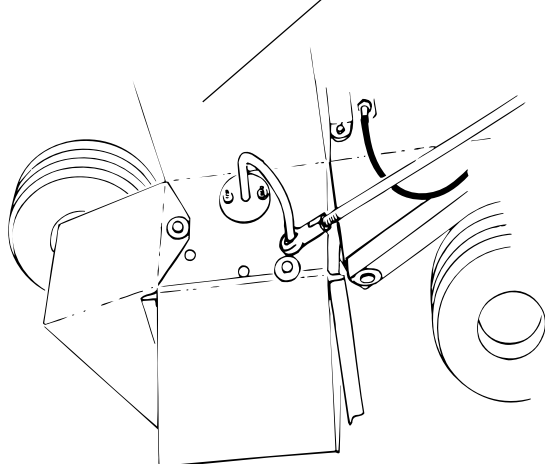

Fig. 1
The diverter rod controls the closing (O) and opening (I) of the exhaust outlet. Adjust diverter rod to side discharge for normal blowing or to forward discharge for blowing along walls, fences or hard-to-reach areas (see Fig. 1).